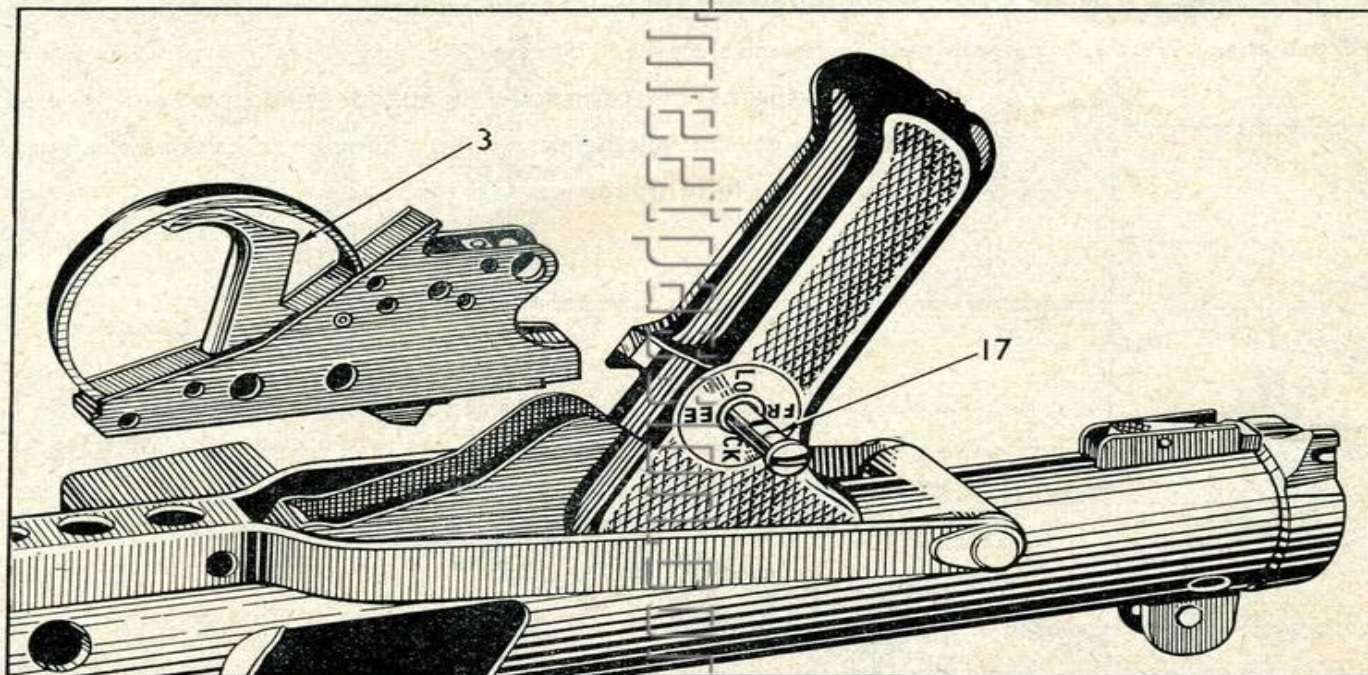

Fig. 11. To remove trigger group
8.2 TO REMOVE TRIGGER GROUP (Fig. 11). Set change lever at "Safe," and with a small coin or rim of a cartridge turn the slot in the head of the trigger group retaining pin (17) in line with the word "Free" on the right side of the pistol grip. With the nose of a bullet or the blunt end of the cocking handle push trigger group retaining pin (17) out and remove. Pull trigger group towards rear of weapon, disengage from step in underside of barrel case and swing front of trigger group out and remove from body. To remove trigger guard, push out forward pin, swing guard downward, pivoting about its rear fixing, and unhook from underplate.